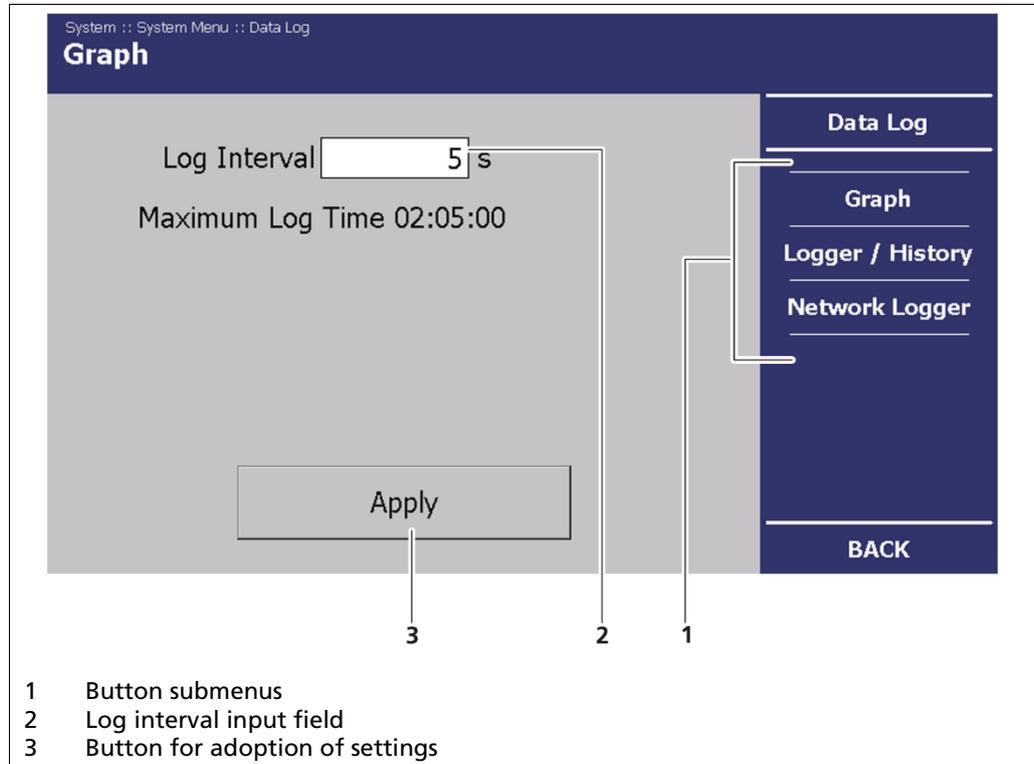

Fig. 33 System Menu. Settings - Data Log (Graph)
In the "log interval" input field, set the interval in which the data is to be displayed (Fig. 33, Item 2).
1. In the **System Menu | Data Log**, click on **Graph** (Fig. 33, Item 1).
2. Click on the input field to set the log interval (Fig. 33, Item 2).
4. Click on the **<Apply>** button (Fig. 33, Item 3) to adopt the setting.
1. In the System Menu, click on Data Log | Data Logger (Fig. 33, Item 3) to reach the Data Logger submenu.
In the **System** menu, click on **Data log | Network logger** (Fig. 33, Item 3). In the "Network Logger" submenu, you can transmit log data to a host over Ethernet.